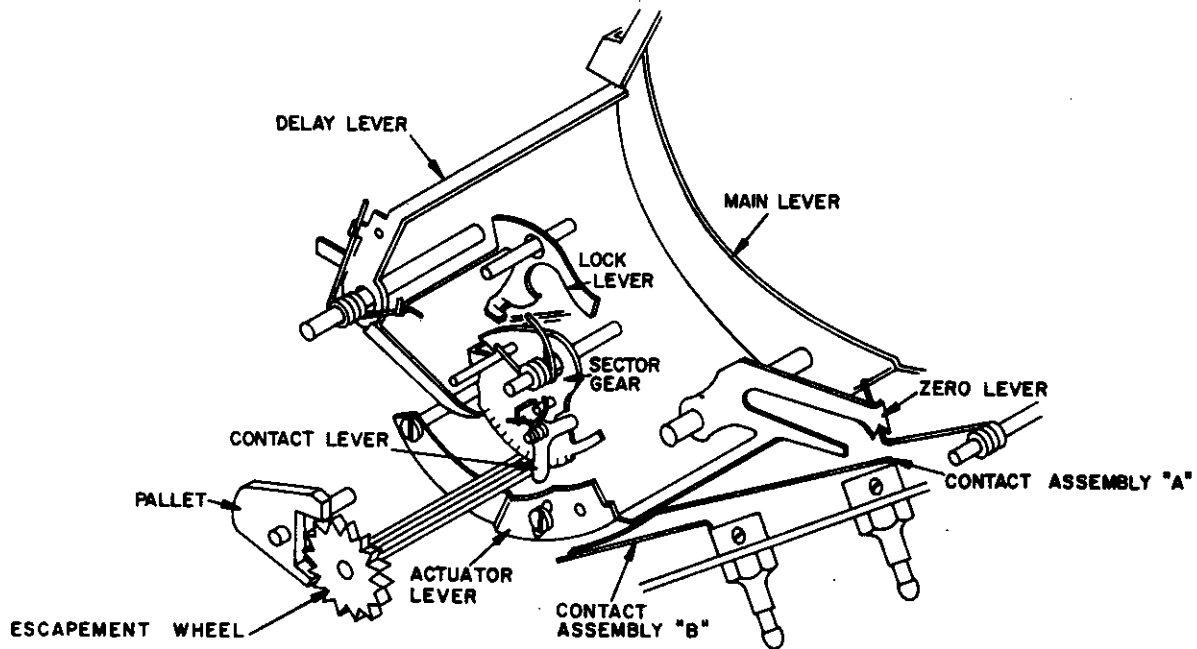

Figure 7. SYNCHRONIZER OPERATION
10. Synchronizer Operation (fig. 7)